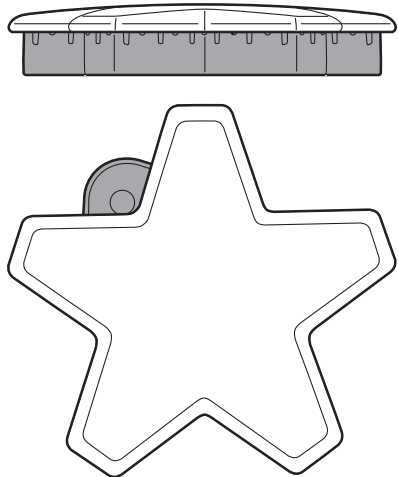
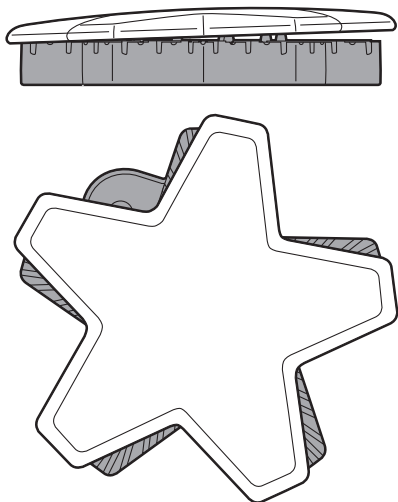

Figure 6: Correct Burner Cap Placement
Figure 7: Incorrect Burner Cap Placement
- Check each burner to make sure there is no gap between the burner cap and burner base. See *Figure 6* and *Figure 7* for examples of correct and incorrect placements of the burner cap.
- You may gently try to move the burner caps from side to side to check if the caps are properly placed on the burner bases. When properly placed, each burner cap will rest flat on top of its burner base, and completely cover the star-shape of the burner base when viewed from the top as shown in *Figure 6*.
Each STAR® burner has its own electronic igniter that sparks when the burner is turned on. Each burner should light in 4 seconds or less. If a burner does not light, check to see that the burner cap is positioned correctly on the base (see *Figure 6* and *Figure 7*).